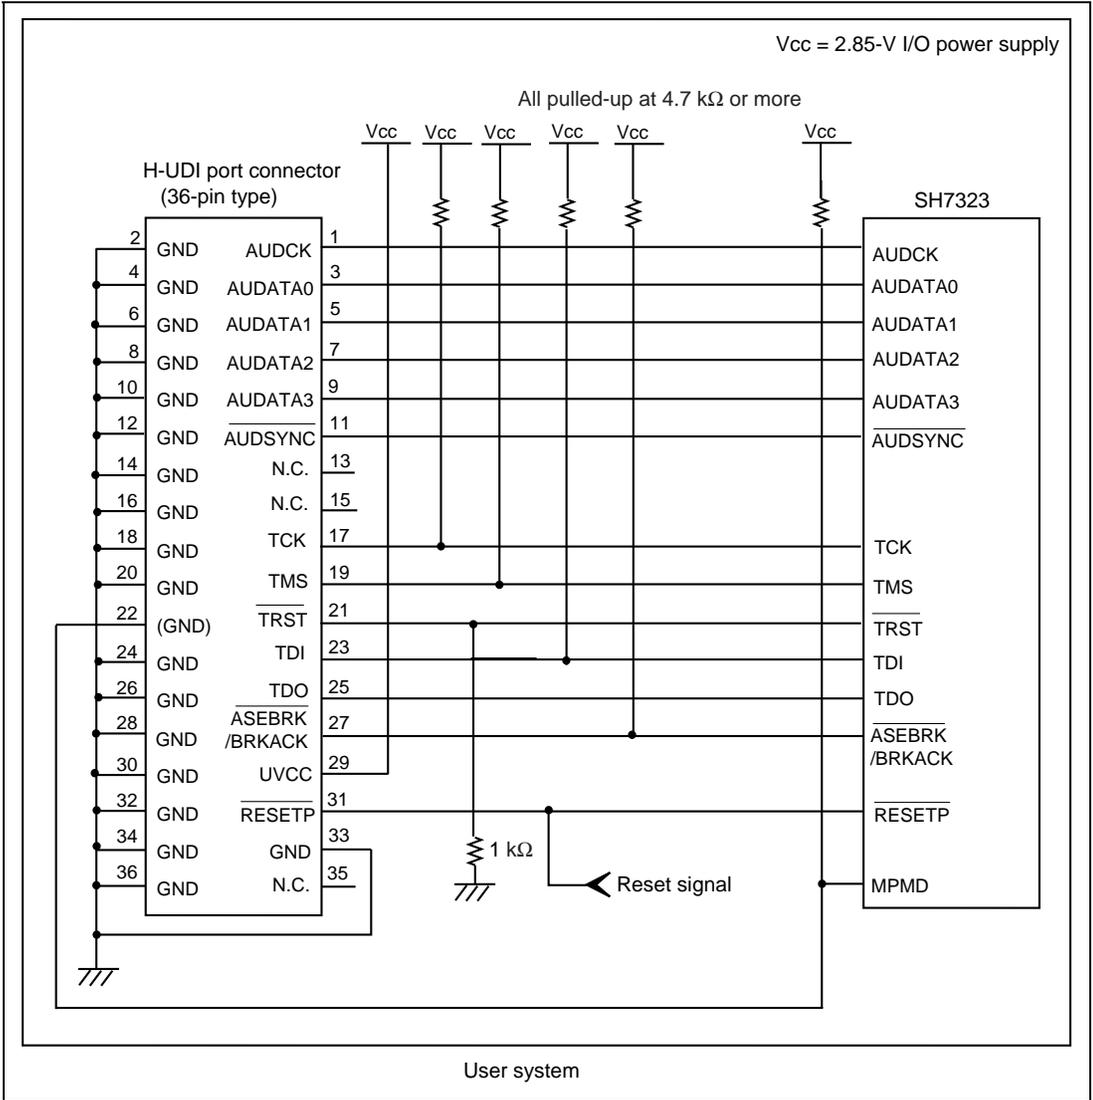

Figure 1.3 Recommended Circuit for Connection between the H-UDI Port Connector and MPU when the Emulator is in Use (36-Pin Type)
Figure 1.3 shows a recommended circuit for connection between the H-UDI and AUD port connectors (36 pins) and the MPU when the emulator is in use.
- (1) When the emulator is used: MPMD = 0 (ASE mode)
- (2) When the emulator is not used: MPMD = 1 (normal mode)Figures 1.3 shows an examples of circuits that allow the MPMD pin to be GND (0) whenever the emulator is connected by using the user system interface cable.
7. The resistance values shown in figure 1.3 are reference.
When the circuit is connected as shown in figure 1.3, the switches of the emulator are set as SW2 = 1 and SW3 = 1. For details, refer to section 3.8, Setting the DIP Switches, in the Debugger Part of the SuperH™ Family E10A-USB Emulator User's Manual.